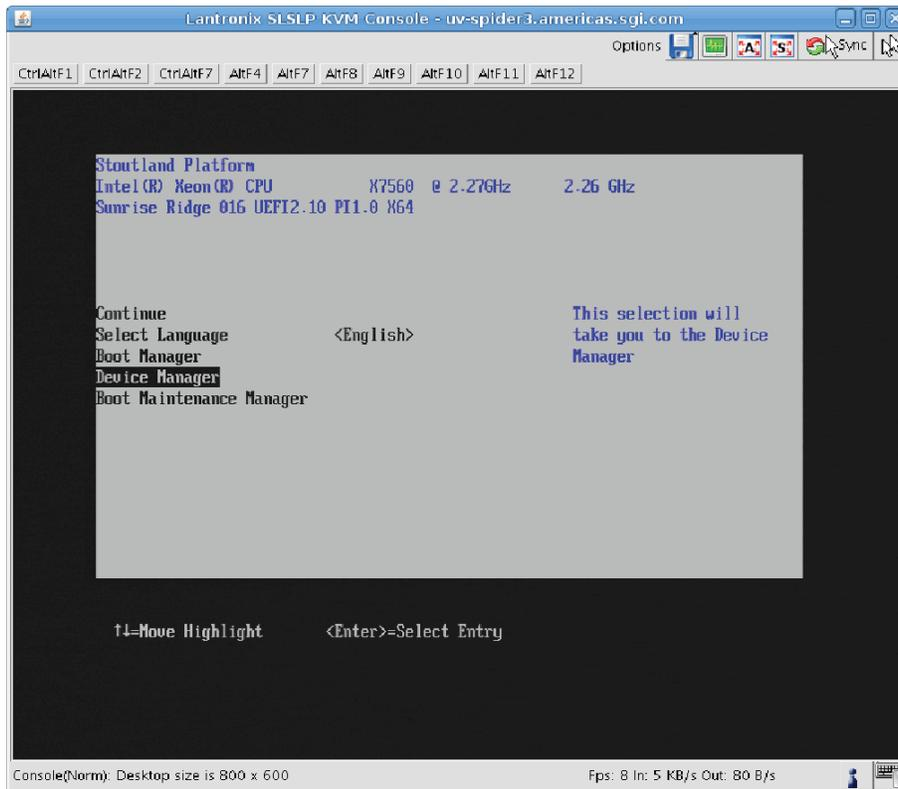

Figure 2-3 Device Manager Boot Manager Selection
3. From the boot manager screen, select **Device Manager**, as shown in Figure 2-3 on page 30.
2. From the boot manager screen, select **Device Manager**, see Figure 2-3 on page 30.